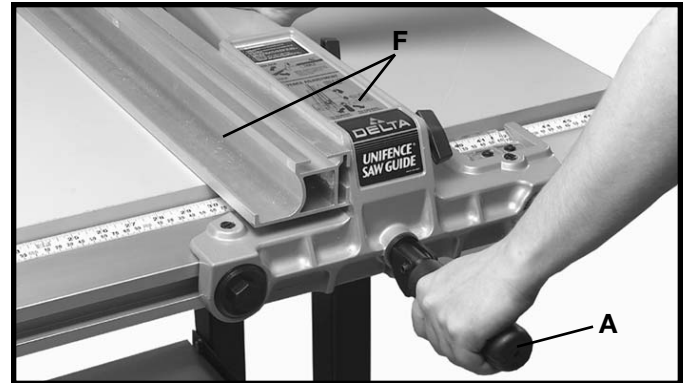

Fig. 73
6. To remove the fence and fence body assembly (F) Fig. 73, from the guide rail, lift up on fence clamping lever (A) and turn lever (A) to the left indent position. The fence assembly (F) can then be pulled straight off the guide rail and removed.